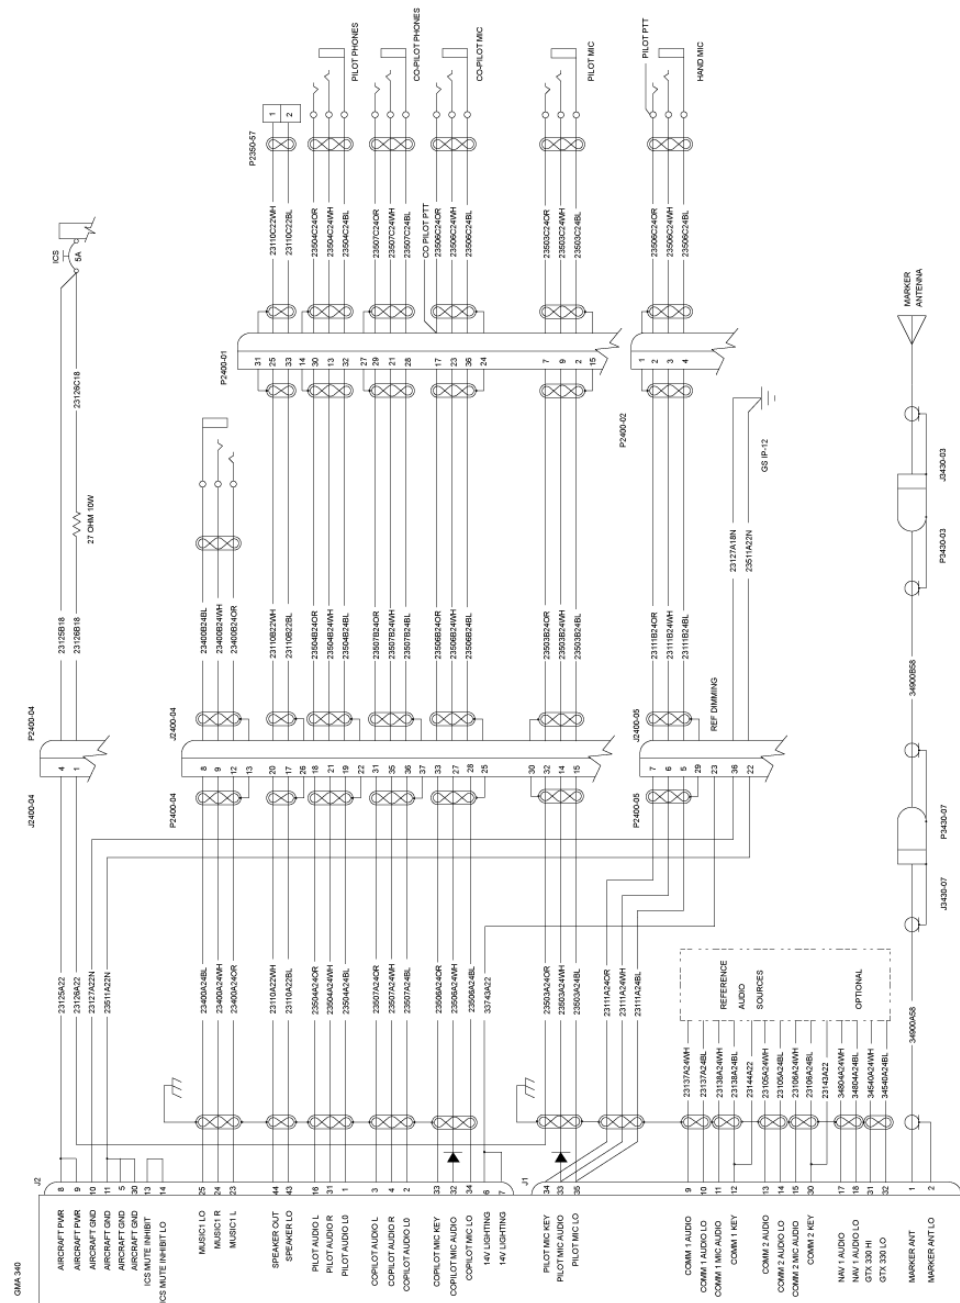

Figure 1 - GMA 340 Schematic Diagram
See Figure 1, Schematic Diagram.
- 10.9 Add wire 23126C18 from ICS Circuit breaker and cut to length at the resistor mounting position. See Figures 1 and 2.